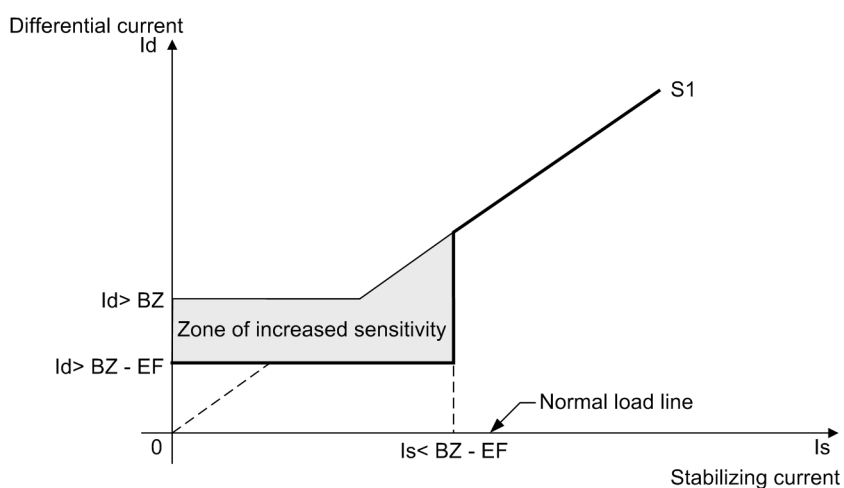

Figure 1-3 Earth fault characteristic
- Earth fault characteristic (Figure 1-3, page 7)